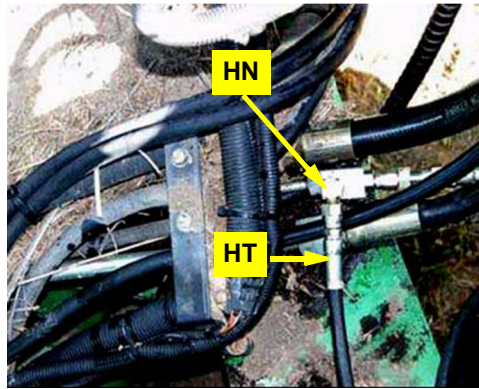

Figure 8b: Load sense hose at shuttle
- b. Install the load sense hose **HT** between the **LS** port on the hydraulic steering block and load sense shuttle valve adapter **HN** (Figure 8b).